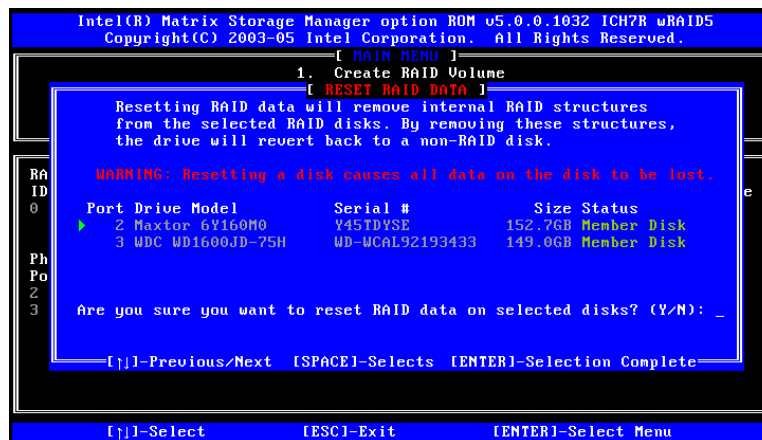

Figure F-14: Reset Disk Verification
Step 3: Reset Disk Verification. After reading the warning, press **Y** to reset the selected disks as non-RAID, or **N** to return to the **Reset RAID Data** menu. See **Figure F-14**.